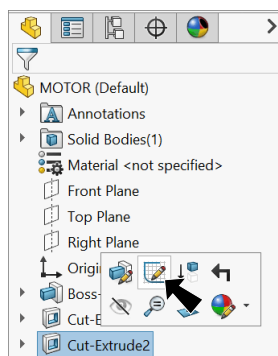

Fig. 14
Step 4. Click **Cut-Extrude2**  in the Feature Manager and click **Edit Sketch**  on the context toolbar, **Fig. 14**.